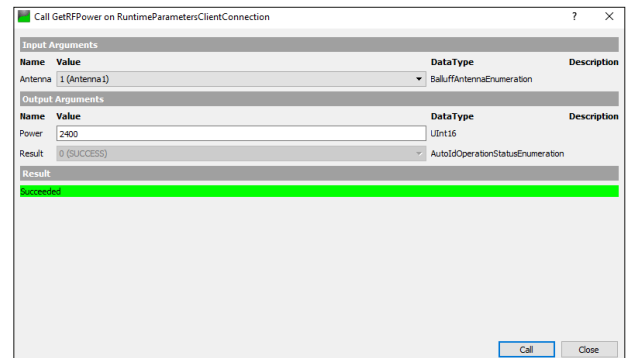

Fig. 9-22: *GetRFPower()* method result
- ⇒ The method is executed and the result appears in the return parameters (current example, see Fig. 9-22).